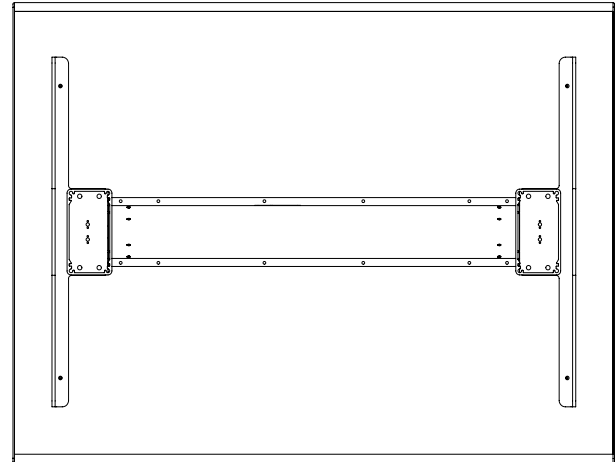

Figure 4: WorkTable, 30-42" D Work Surface
- 4b. Center the WorkTable base (Figure 4) front and back, left and right, over the predrilled holes of the work surface.